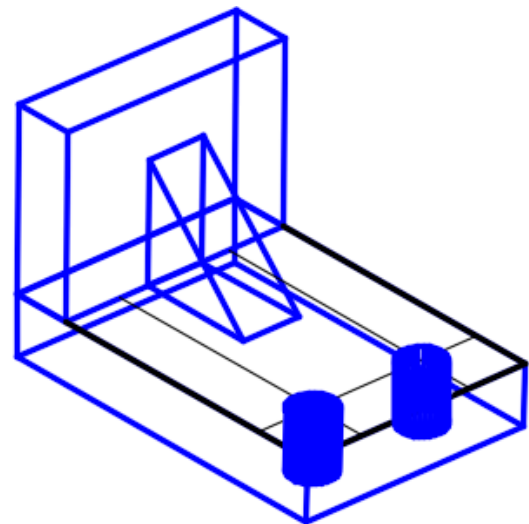

Figure Step 11A
Step 11 Enter the CYLINDER command, as shown below, to construct a cylinder for the left hole. After you do that, construct the cylinder on the right side. (Figure Step 11A and 11B)